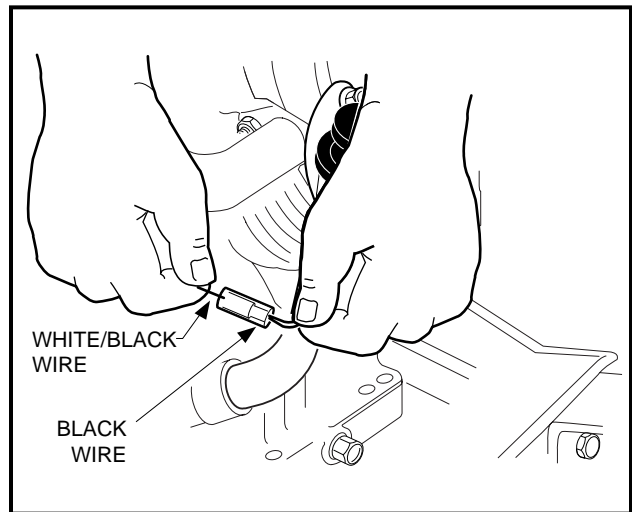

Figure 16-94 Ignition Kill Wire
19. Connect the engine kill switch wire (18 gauge white/black stripe) to the bullet connector at the lower right front of the engine (**Figure 16-94, Page 16-37**).